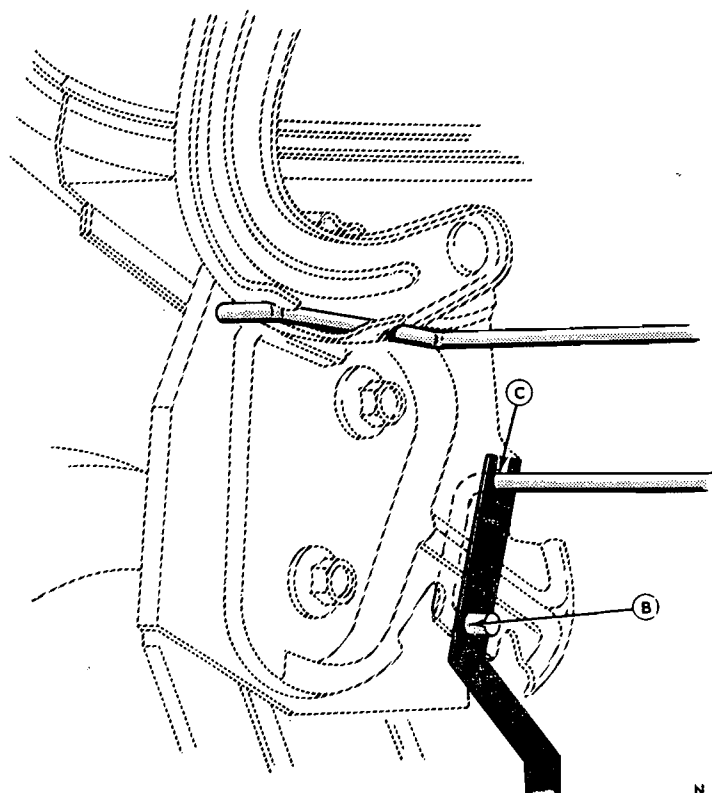

FIG. 16—Torsion Bar Adjustment — Mustang and Cougar — Typical
4. To adjust the torsion bar tension on a Mustang or Cougar, slip Tool T64K-44890-B over the end of the torsion bar as shown in Fig. 16. Then, rotate the bar rearward